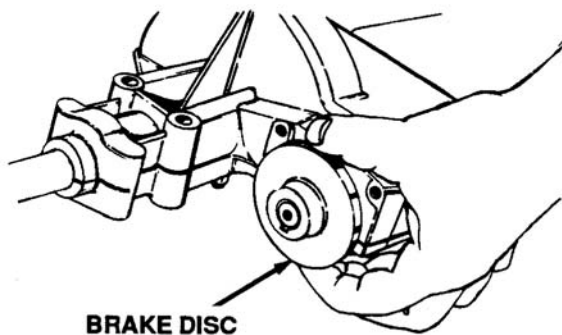

Figure 6-8. Removing Brake Disc
2. Remove the brake disc from the drive shaft by simply sliding it off shaft. See Figure 6-8.